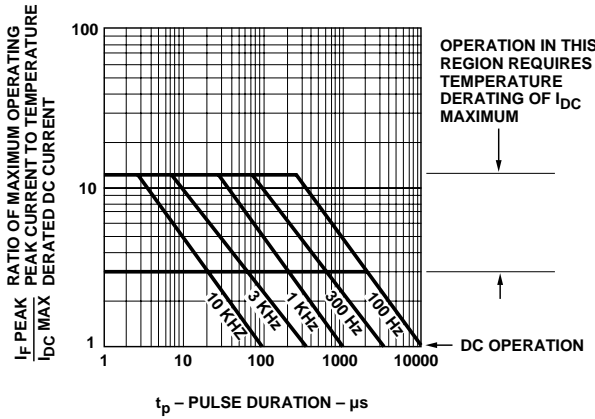

Figure 6. Allowable Peak Current vs. Pulse Duration - Green.
7. See Figure 6 to establish pulsed ocnditions.